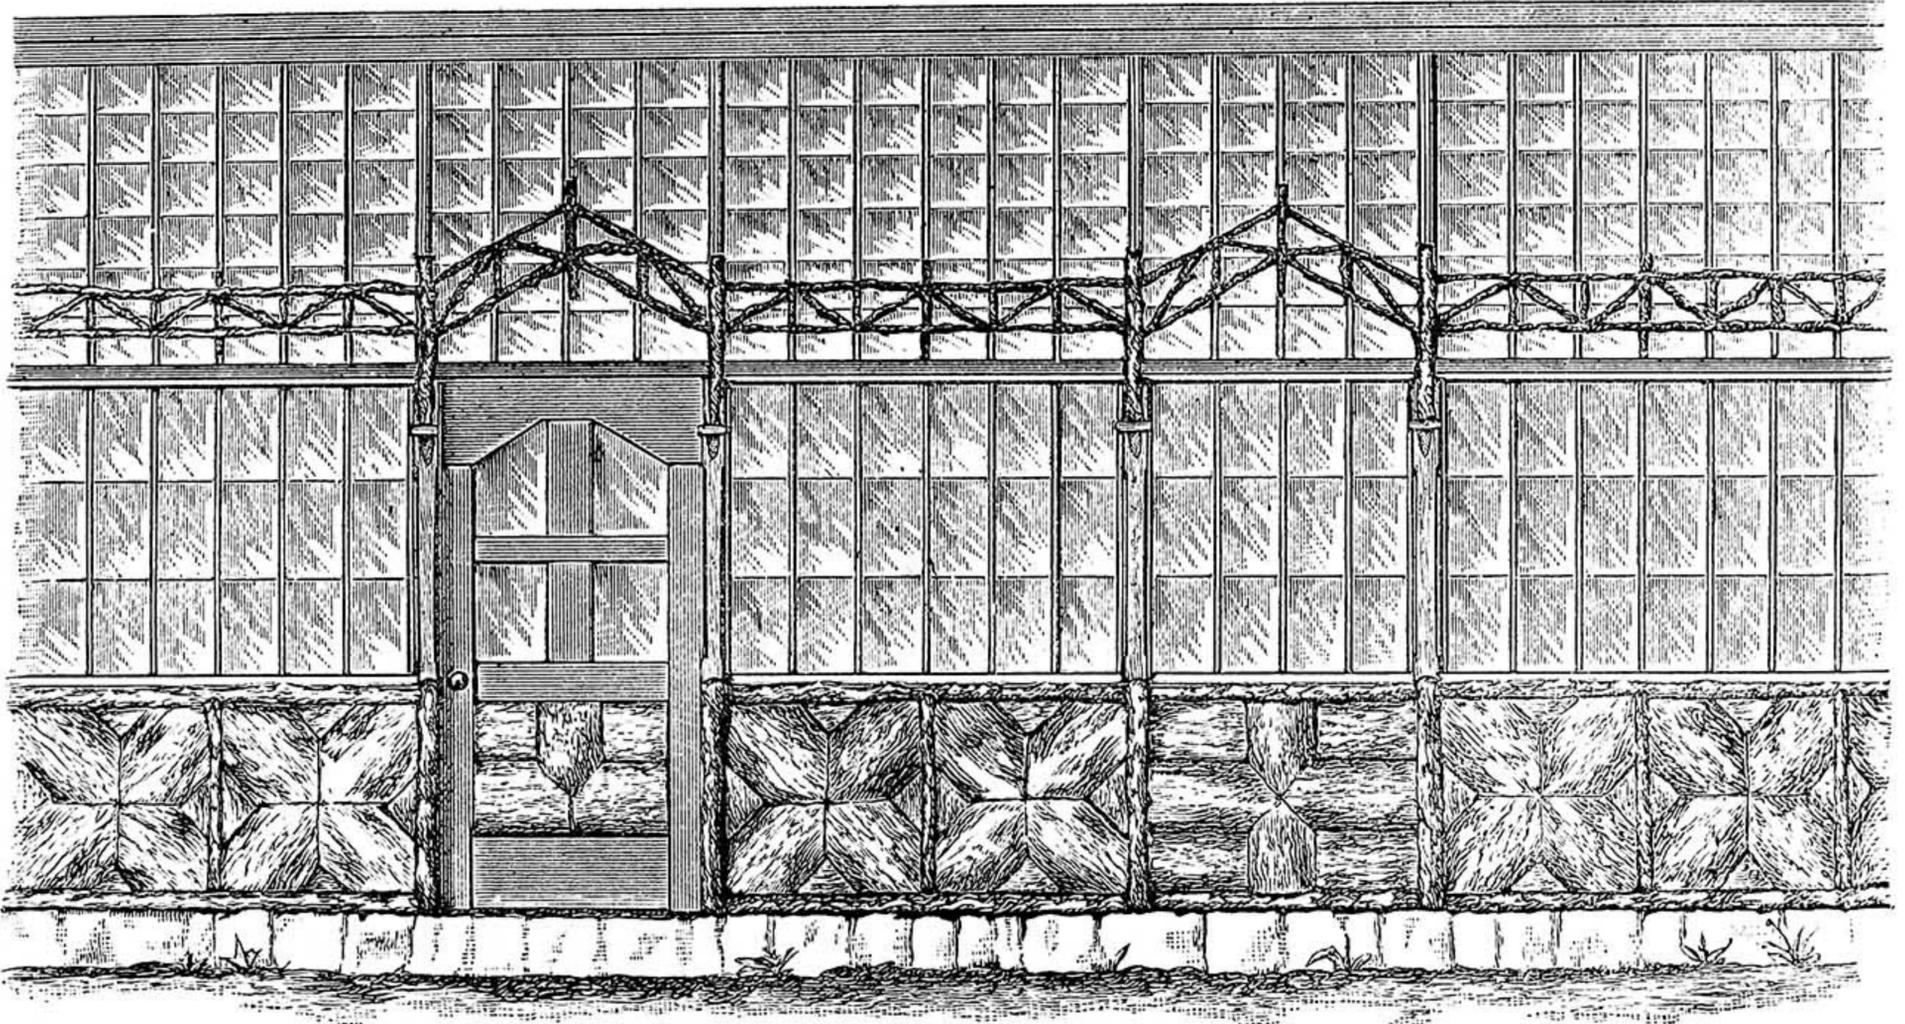

Fig. 1.—Front Elevation of Glazed Rustic Verandah, to be utilised for Grape Culture.
Fig. 1 is a front elevation of a portion of the verandah, whilst Fig. 2 gives a side view of the lower half of one of the collar-posts. At *a*, in Fig. 2, is seen the section of the upper cross-rail, which has its top  $2\frac{1}{2}$  ft. from the ground; at *b* is the lower cross-rail, or sill. Both are of quartered rough stuff, and are mortised to the post  $\frac{3}{4}$  in. from its inner edge, so that when the  $\frac{3}{4}$  in. boarding, *c*, is nailed against them, it will come flush with the inner side of the post. At *d* is indicated the sash-frame, with its rebate for glass, which occupies the upper part of the opening; and at *e* is a metal flashing between rail and sash to throw off rain. It is proposed that the sashes in the narrower openings only should be made to push outwards at bottom for ventilation. At *f* is a piece of halved rough stuff nailed to the front of the post.
The panels, which occupy the lower part of the space between the collar-posts, are filled with pieces of rough plank or "slab," as shown in Fig. 1. These pieces should wear their natural bark as far as possible; they are nailed to the inner boarding.
Of the illustrations, Fig. 1 is drawn  $\frac{1}{2}$  in. to the foot, whilst Figs. 2 and 3 are on a 1 in. scale. Of course it must be borne in mind that these are somewhat small for practical work, and that the reader, before he begins to carry out the idea, should make a working drawing on a larger scale, after having made such modifications in the structure as circumstances may suggest as being desirable.
*Irregular and Unusual Shapes.*—Fig. 1 is the plan of a drawer I once had to make for a circular corner of a counter, and this, it will be seen at a glance, is of a form that, under ordinary circumstances, would prove a continual source of annoyance to those whose lot it would be to use it. It was this case that led me to specially consider the conditions necessary to secure free and easy running of drawers in particular, and sliding bodies in general, and finally to the adoption of the following method of treatment for all drawers of troublesome form or proportion.
The drawer, Fig. 1, was joiner-made, and consequently minus the centre rail in bottom that a cabinet-maker would in this case have put, and wherein a groove might with advantage have been ploughed. A couple of fillets were, therefore, glued and screwed to the bottom, as shown by the dotted lines, Fig. 1, and the enlarged section at *a b*, Fig. 2. This answered admirably, and made the drawer the nicest working one in the whole place.